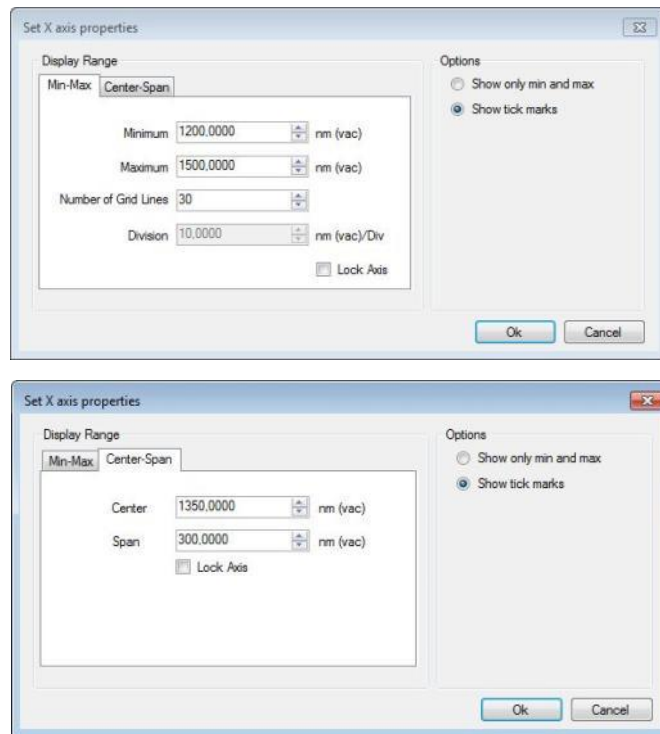

Figure 14 Axis Options Dialog Opened for the Horizontal Axis
The vertical axis can be set manually by clicking on the (primary or secondary) vertical axis itself. This will bring up a dialog box, (shown in Figure 14) in which the minimum and maximum value, division, center wavelength and span can be set.
- The range of the primary and secondary axis can be set individually by clicking on (the gray part of the) axis which brings up the Axis Options Dialog (see Figure 14) for the selected axis notice that the grid density is always the same for the primary and the secondary axis. Changing the grid density on one axis will change the grid density on the other.
- The primary and secondary axes can be locked individually to any desired range by checking the "Lock Axis" check box in the Axis Options Dialog (see Figure 14).